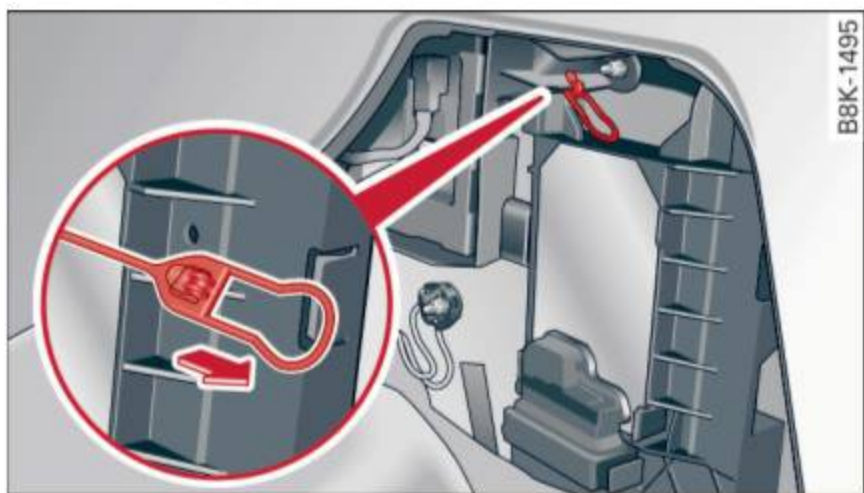

Fig. 157 Luggage compartment: Emergency opening of fuel filler flap
- ▶ Loosen the strap from its bracket and pull on it ⇒ *fig. 157*. You can now open the fuel filler flap as usual ⇒ *page 190*.